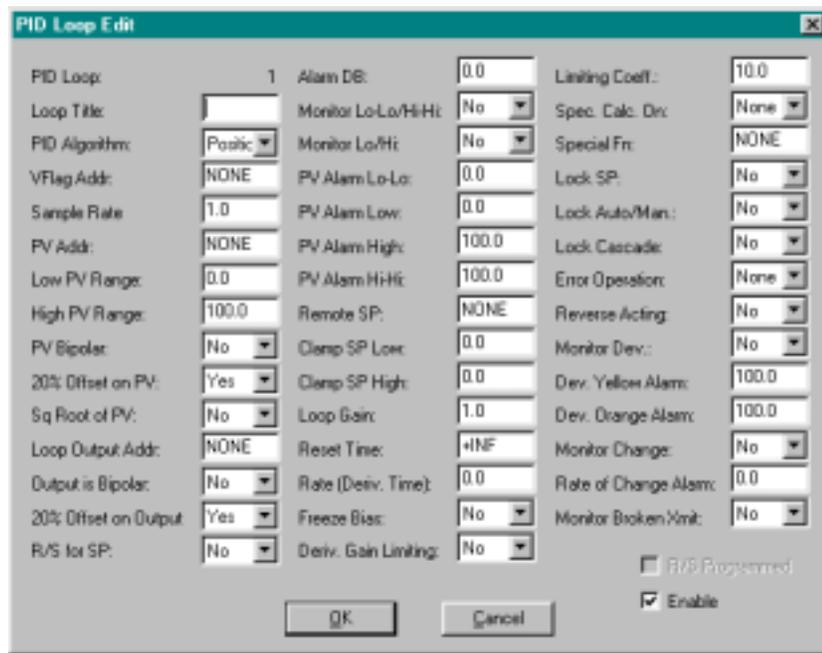

Figure 9.2
5. To edit the selected PID Loop number, double-click on the Loop number or click on the dialog box Edit button, or use the keyboard to Tab to the Edit button and press Enter or (Alt + E). The following dialog box appears (see Figure 9.2).